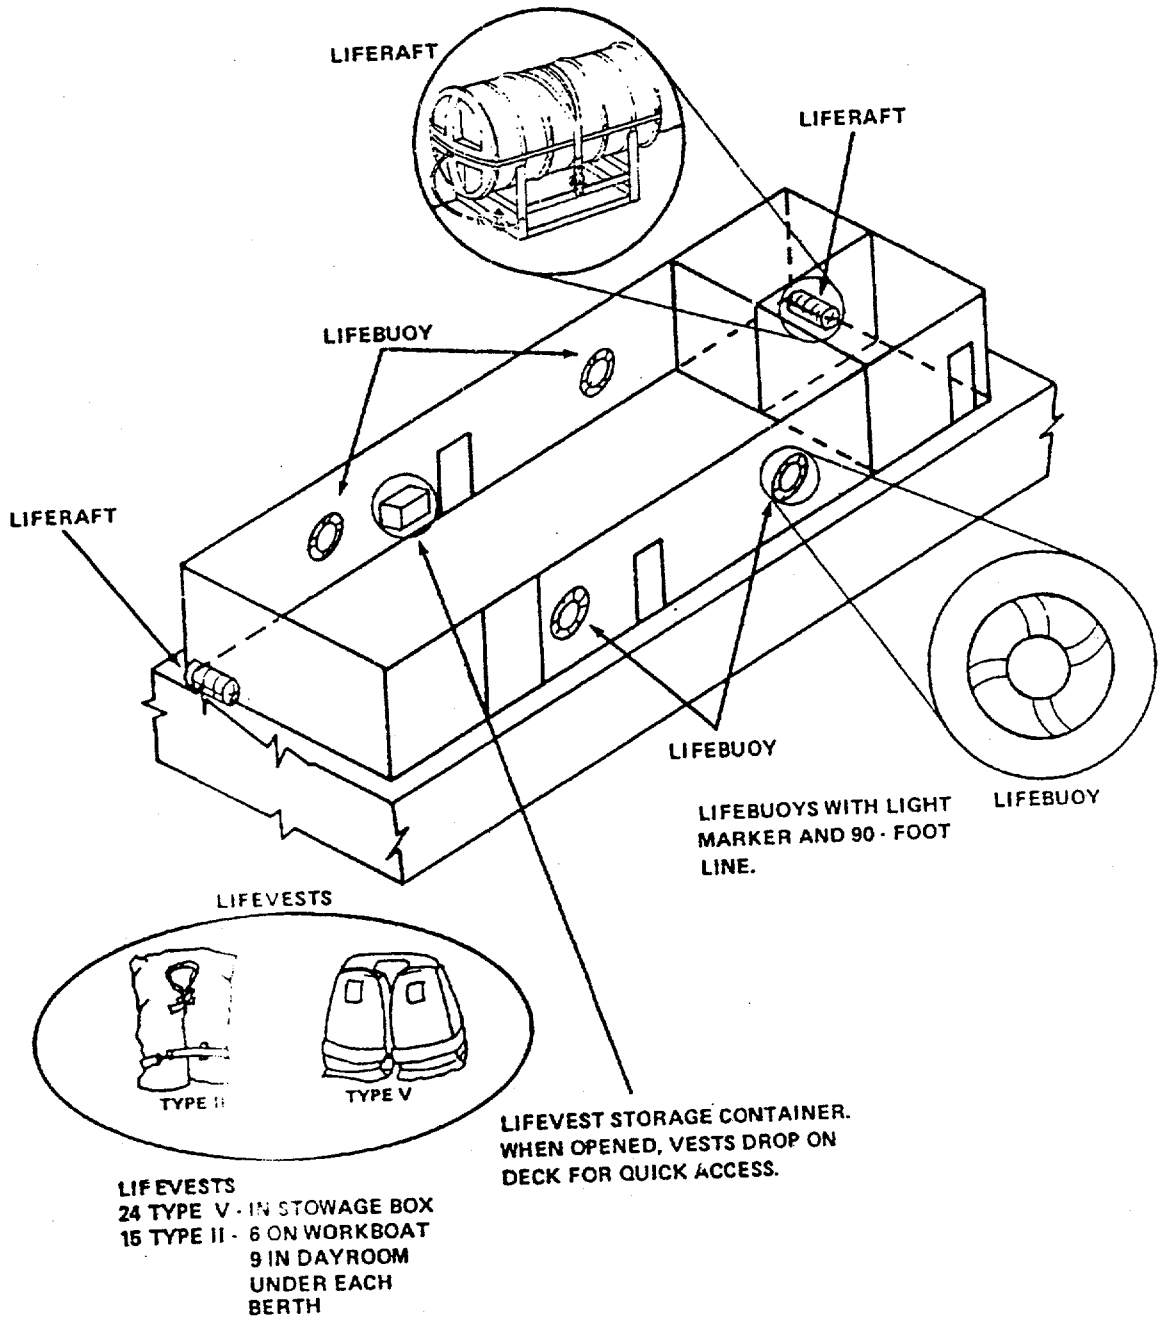

Figure 17-2. Lifesaving Equipment and Location
**17-3.4** Lifesaving Equipment, shown in Figure 17-2, consists of 2 liferafts, 15 type 11, and 24 type V lifevests and 4 lifesaving ring buoys. These liferafts are designed primarily to protect personnel until rescue vessels arrive. They are equipped with two small paddles for maneuvering only. Life buoys and lifevests are designed to sustain a conscious person in the water while awaiting immediate rescue, not for moving any distance while in the water.